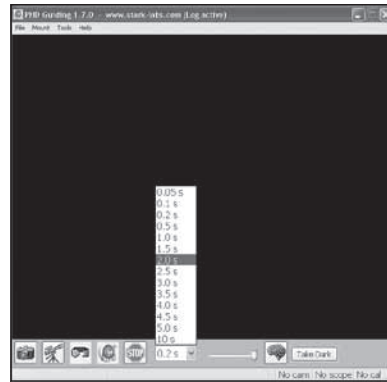

Figure 9. Select **2.0 s** in PHD Guiding to set the exposure time to 2 seconds.
6. In the **Exposure Selection** pull down menu, select **2.0 s** (Figure 9).